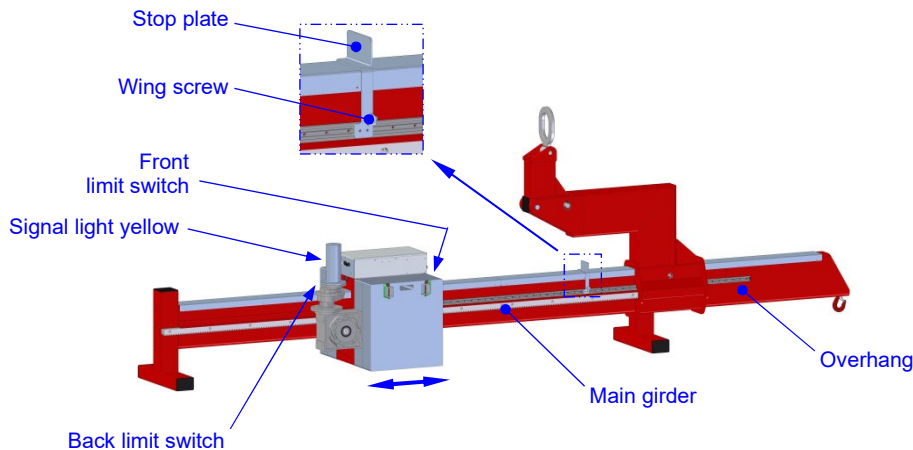

Fig. 9: Stop plate and yellow signal light
- ⇒ Position the stop plate (s. fig. 9) as follows:
- ⇒ Release the wing screw of the stop plate (s. fig. 9) and push the stop plate onto the travelling cage until the front limit switch is triggered. The yellow signal light turns off. Firmly retighten the wing screw.